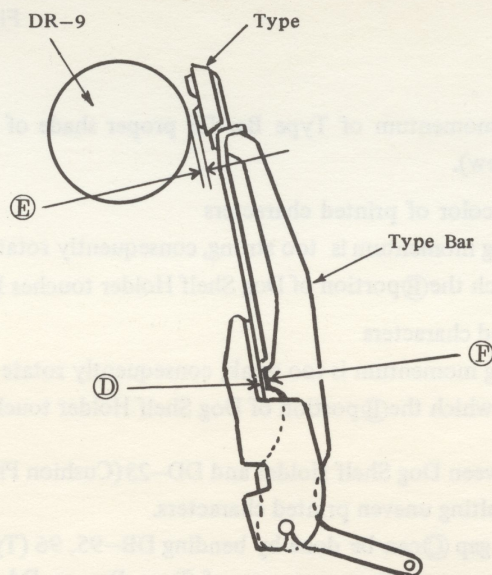

Fig. 11
- (4) The desirable clearance ① between DR-9 (Platen) and Type when Type, Bar is depressed by hand until clearance ② is disappeared, is 0.05 to 0.2 mm. However 0.3 to 0.4 mm of clearance is desirable for small size character (such as comma, period and hyphen etc. for example), consequently adjust for correct clearance by battering the ③ portion of Type Bar or by scraping off the ③ portion for excessive said clearance. (Fig. 11)